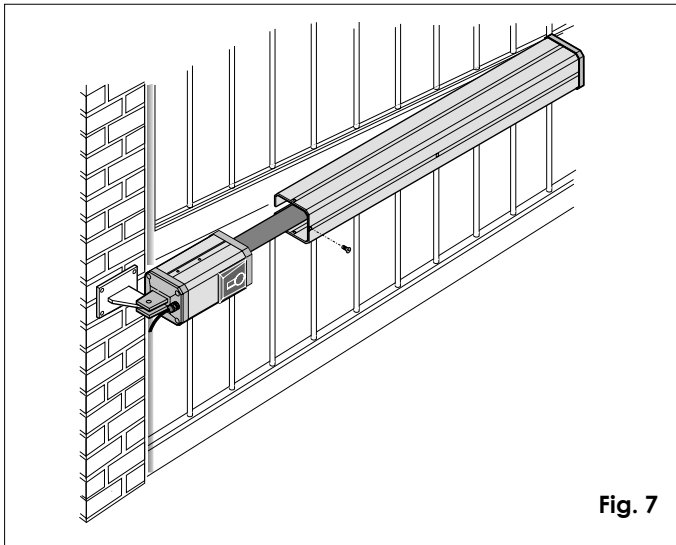

Fig. 7
- 12) Fit the aluminium outer cover with the screws provided as shown in fig. 7.